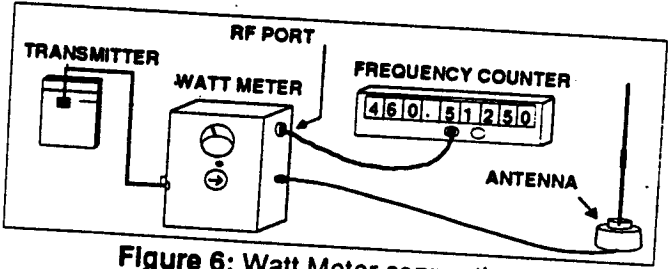

Figure 6: Watt Meter connections
1. Use a Watt meter to check forward and reflected power through the cable and antenna (see Figure 6). This is done to check the cable for shorts or impedance problems. A signal must be transmitted to conduct this test.